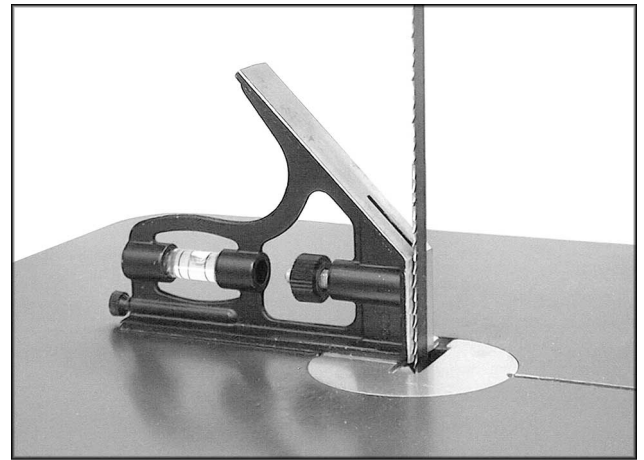

Fig. 15
3. Use a square placed on the table and against the blade (Fig. 15) to see if the table is 90 degrees to the blade.